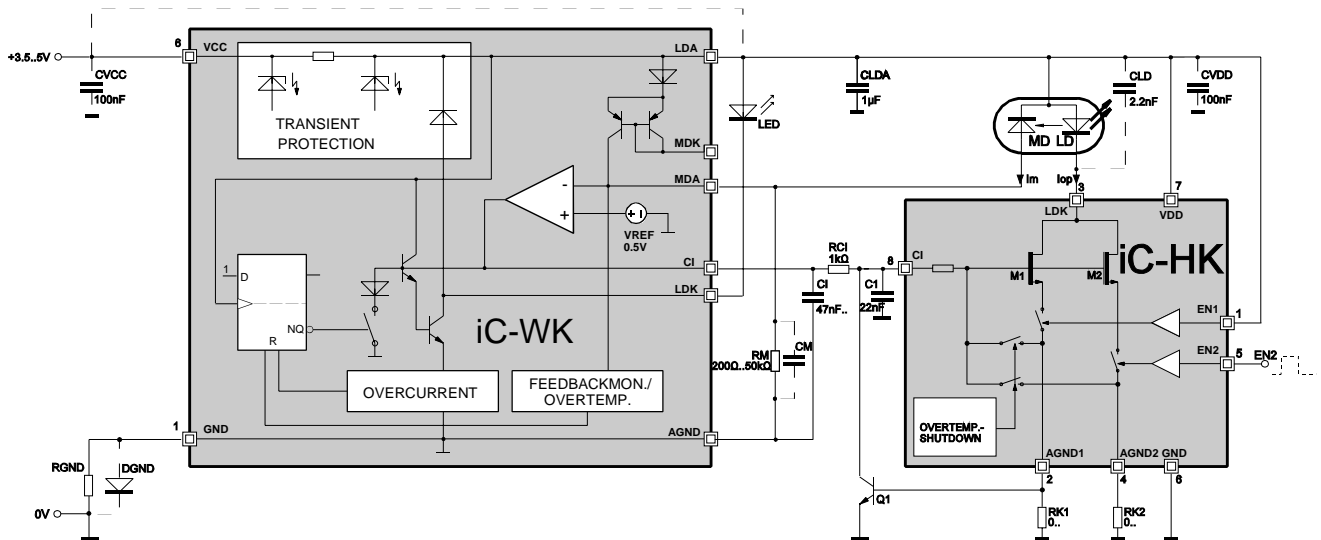

Fig. 19: Laser current limitation without an iC-WK shutdown
Another way of providing protection against overcurrent is illustrated in Figure 19. With increasing current through RK1 transistor Q1 is switched on, lowering the voltage at CI and thus reducing the laser current without triggering iC-WK's overcurrent shutdown.
iC-HK can be used in a wide range of applications from CW to over 150 MHz. Very fast switches have thus been integrated, which have to be properly blocked to prevent ringing. A small blocking capacitor is therefore required for iC-WK between pin 2 (CI) and 3 (AGND) and also at pin 4 (CI) of iC-HK (cf. Figure 19). Increasing capacitor CLDA might also help to suppress ringing.